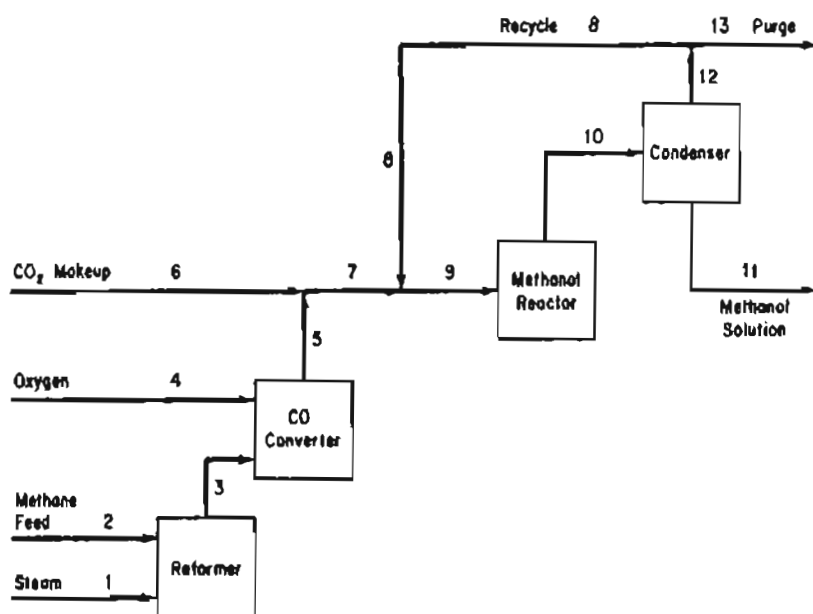

Figure P12.25
- ***12.25** A process for methanol synthesis is shown in Figure P12.25. The pertinent chemical reactions involved are
Because the methane feed contains 1% nitrogen as an impurity, a portion of the recycle stream must be purged as shown in Figure P12.25 to prevent the accumulation of nitrogen in the system. The purge stream analyzes 5% nitrogen.